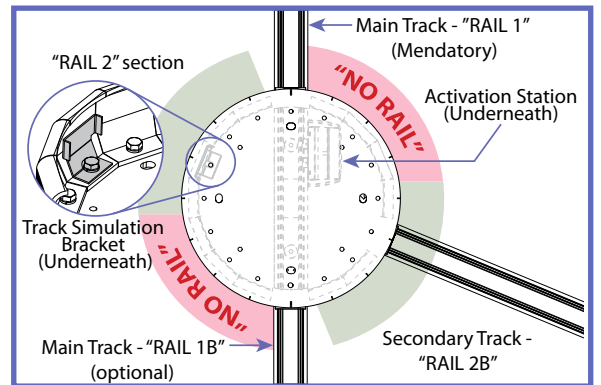

Fig. 7
**NOTE:** If no track is installed in any of "RAIL 2" positions, a track simulation bracket must be installed in the position opposite to the track installed in the "RAIL 2B" position, see Fig. 7.